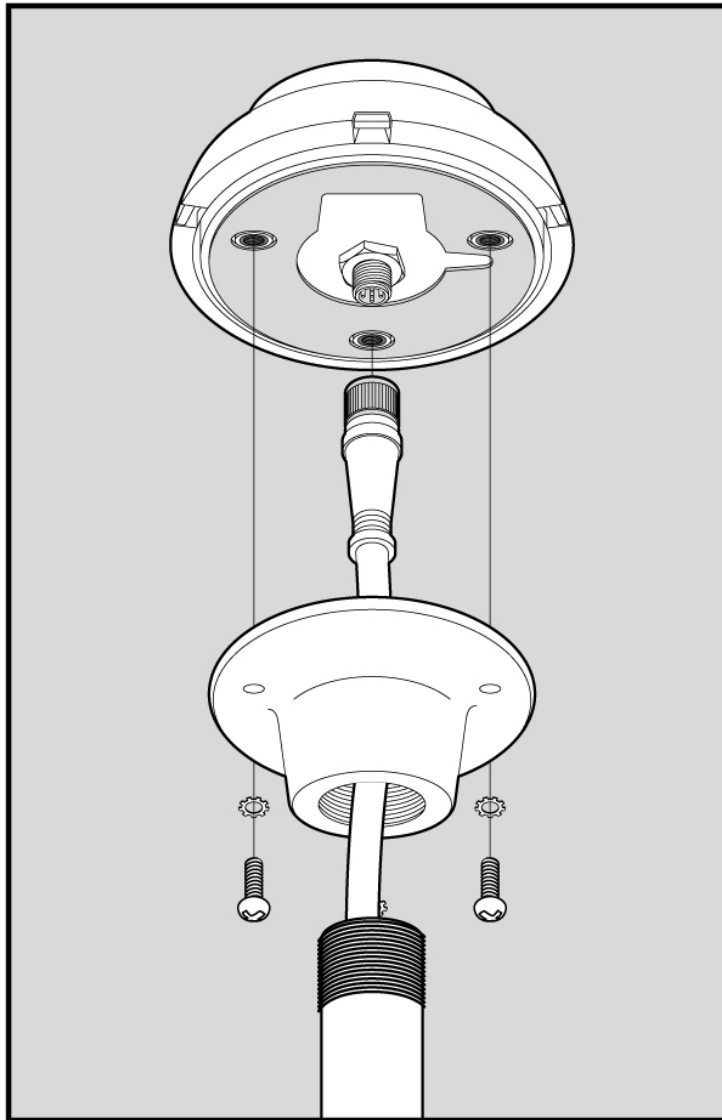

Figure 2 – Mounting the GPS200 to a Standard Marine Pole Mount
Screw the included GPS200 antenna mount base to the standard marine mount. Thread the NMEA 2000® cable through the standard marine mount and the antenna mount base from the bottom out through the top and connect it to the GPS200 unit (see Section 2.4 below). Finally, attach the GPS200 to the antenna mount base using the included brass mounting screws and lock washers as shown in Figure 2. Do not use threadlocking compounds containing methacrylate ester, such as Loctite Red (271), as they will cause stress cracking of the plastic enclosure.